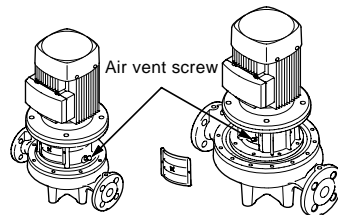

Fig. 12 Position of air vent screw
1. Close the discharge isolating valve and loosen the air vent screw in the motor stool. See fig. 12.
2. Loosen the air vent screw. See fig. 12.
3. Vent the pump during starting by loosening the air vent screw in the motor stool until a steady stream of liquid runs out of the vent hole. See fig. 12.